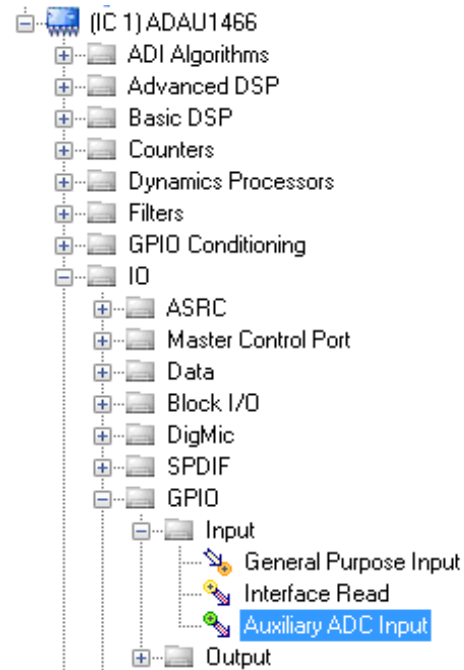

Figure 52. Auxiliary ADC Input Block Selection
- From the **IO > GPIO > Input** folder, click **Auxiliary ADC Input** (see Figure 52) and drag it into the project space to the right of the toolbox.